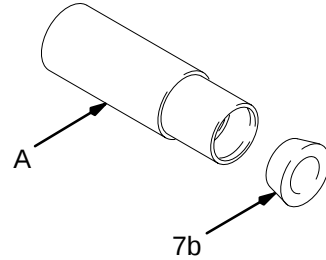

Fig 9 0531
- a. Carefully place the u-cup seal (7b) into the smaller diameter end of the seal insertion tool (A), with the open end of the seal facing outward in the tool. See Fig 9.